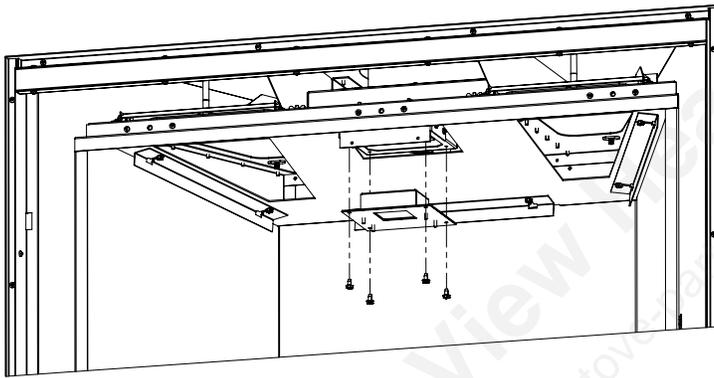

Figure 28: Top Light Removal
4. Remove the top light assembly by removing four (4) screws using a 5/16 socket (see Figure 28).